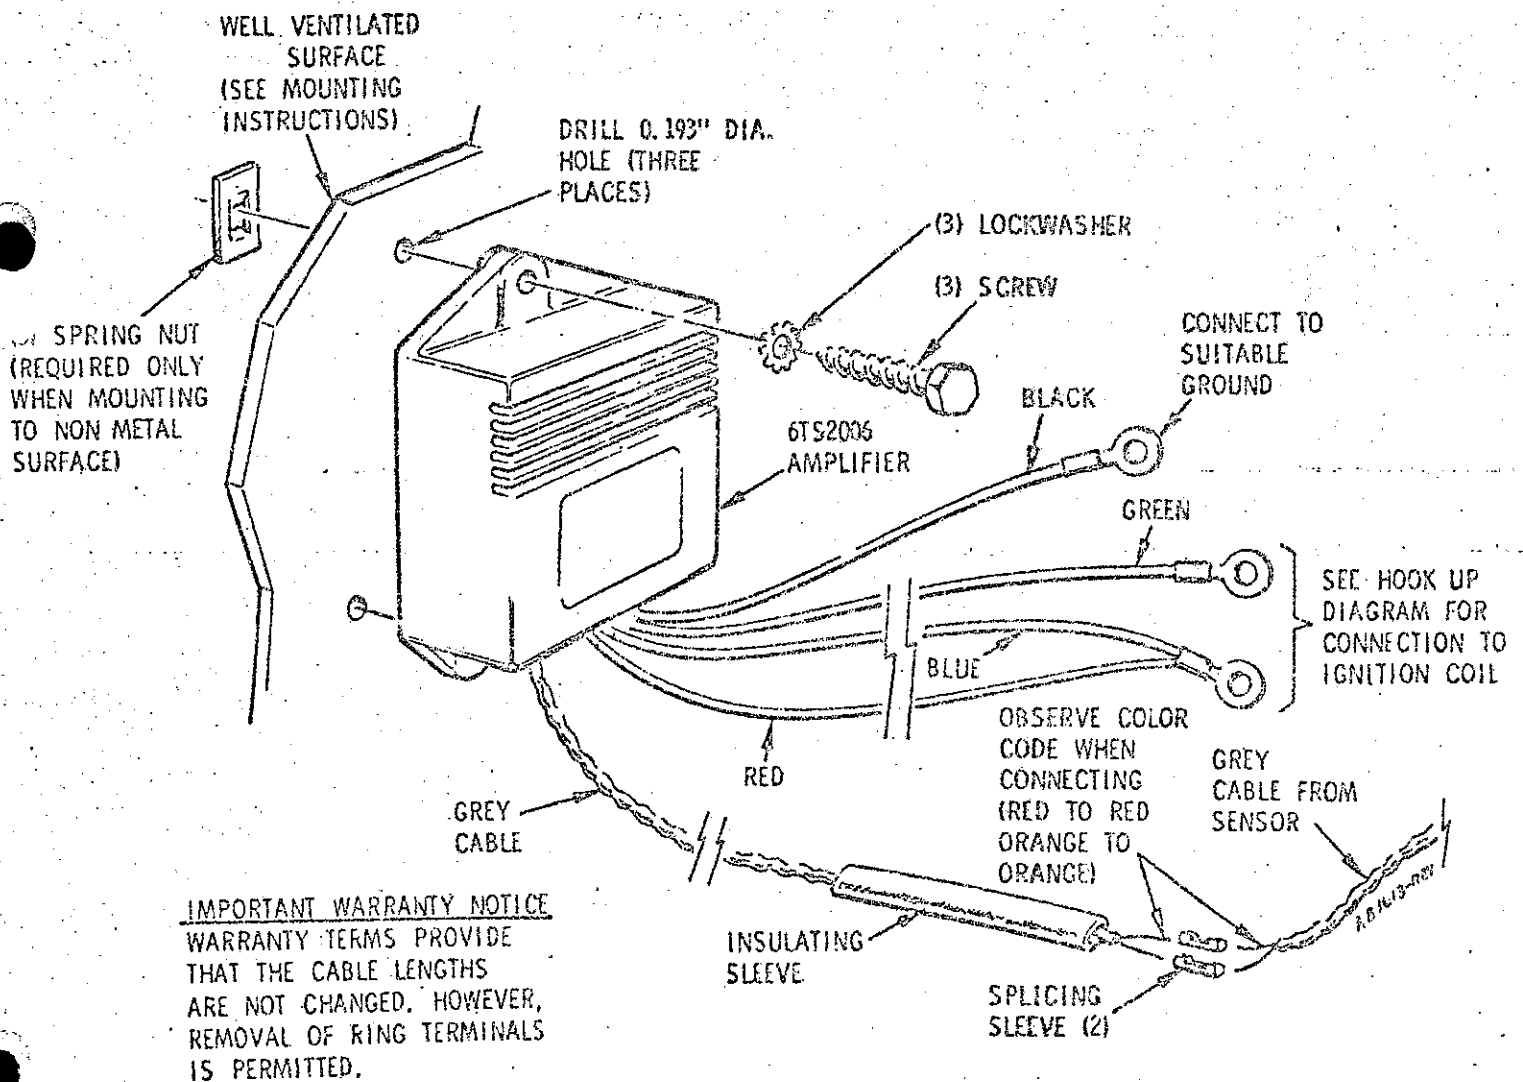

FIGURE 1
## AMPLIFIER INSTALLATION (Figure 1)
4. Connect black wire to an existing bolt that is grounded to vehicle. If amplifier is mounted on metal panel or surface that provides good ground, the black wire can be connected to one of the amplifier mounting screws. See Figure 1.